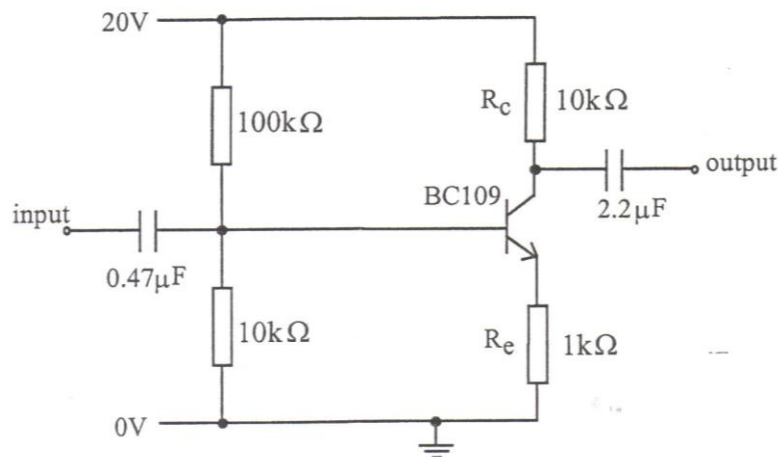

Fig. 5.3: Circuit diagram.
1. Construct the circuit in Fig. 5.3, first on breadboard and then on stripboard.